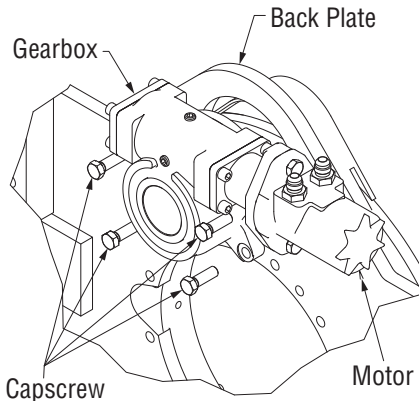

Figure 5-5, Gearbox Removal
2. Before removing the gearbox from the back plate, place a support overhead or under the gearbox. Remove the mounting capscrews from the gearbox. (Figure 5-5)